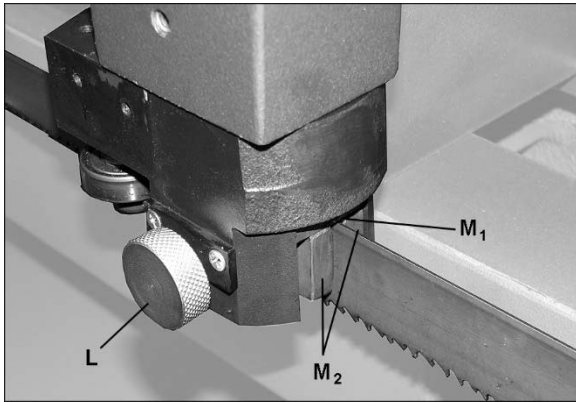

Figure 7-3: carbide guide adjustment
6. Turn knurled knob (L, Figure 7-3) to adjust carbide top (M1) and side (M2) guides. Guides should place light pressure on blade. Do not overtighten.
If tension mechanism will not move blade, loosen and then re-tighten socket head cap screws on gibs (X, Figure 7-3).